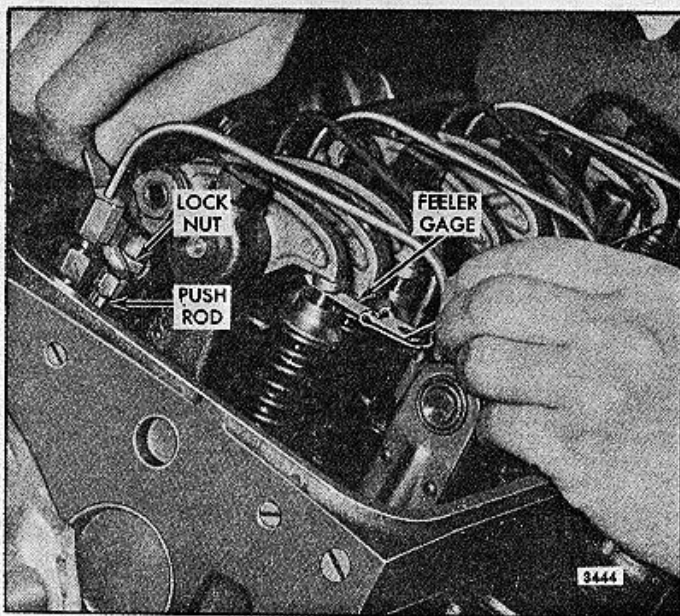

FIG. 1 - Adjusting valve Clearance (two valve Head)
5. Place a .013" feeler gage, J 9708-01, between the exhaust valve stem and the rocker arm (Fig. 1). Adjust the push rod to obtain a smooth pull on the feeler gage.